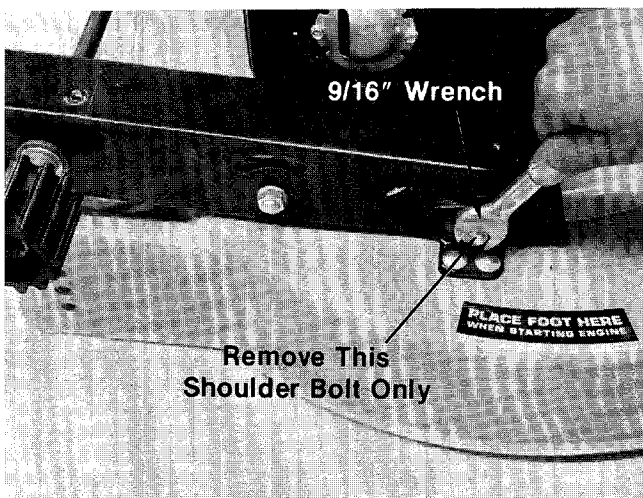

FIGURE 24.
- Remove the shoulder bolt, lock washer and hex nut from the belt cover. A 9/16" wrench is required. See figure 24.